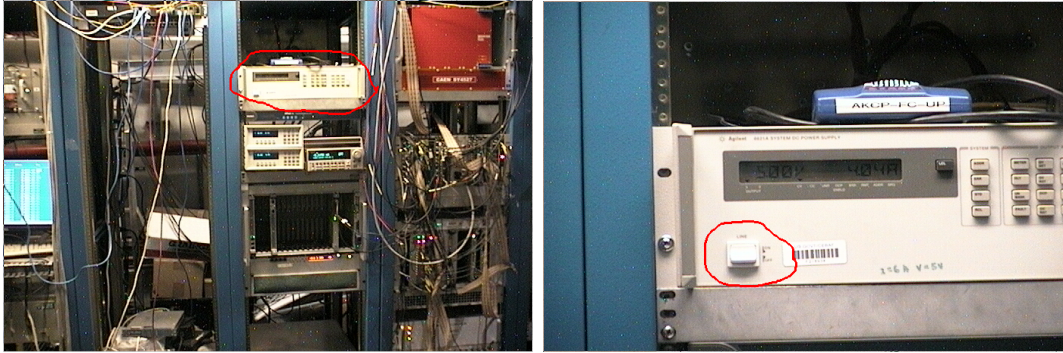

Figure 16: Location of Agilent LV power supply near the top of the middle rack in the pie tower. Power switch circled.
- The LV supply is on the Pie Tower at the top of the middle rack. See figure 16.